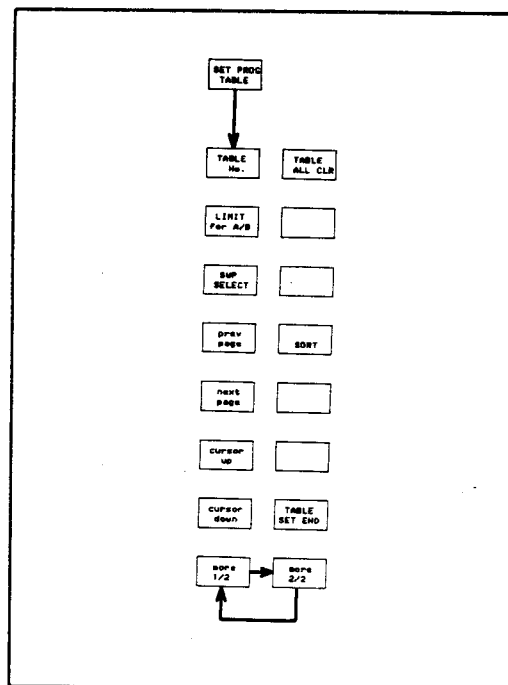

Figure 3-149. Programmed Points Table Menu
- 2) Press the '**SET PROG TABLE**' softkey, < "PTSET" >. Figure 3-149 shows the softkey menu for the programmed Points table. The first page of the softkey menu will be displayed on the screen. Concurrently the programmed points table (Table number: 1) will be displayed also. (This is one of the 16 tables originally set.) Any measurement in progress is suspended and the sweep mode is set to **SINGLE** sweep.